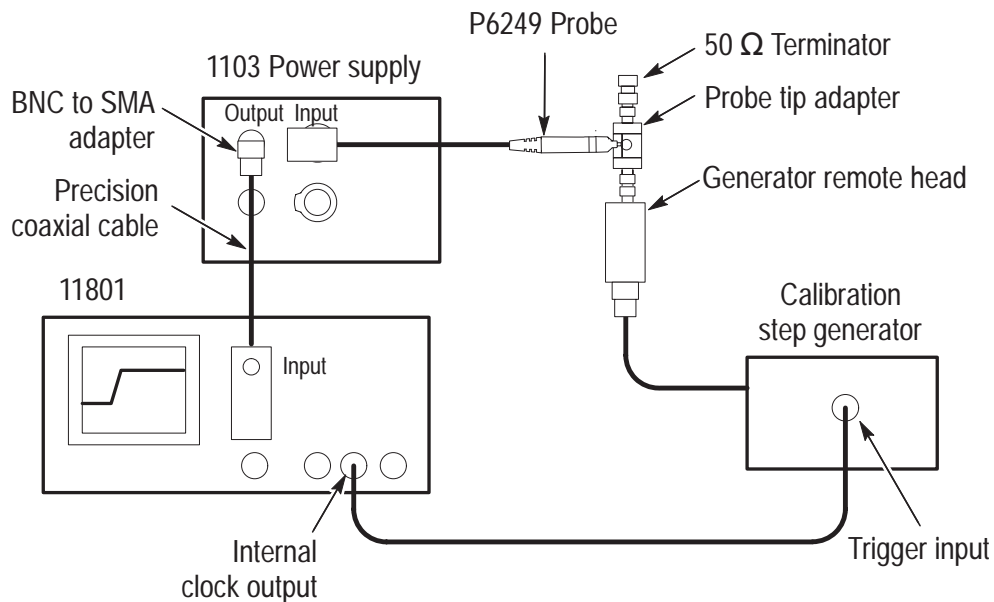

Figure 14: Test system and probe rise time setup
The following steps instruct you to assemble the test setup that includes the probe, as shown in Figure 14. The system and probe rise time (t_{s+p}) that you measure in step 12 is used to calculate the probe rise time (t_p) in step 13.
11. Adjust the oscilloscope horizontal and vertical position controls to display a signal similar to that shown in Figure 14.